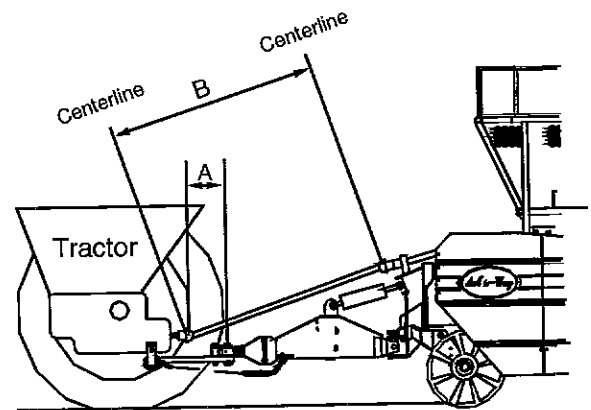

Figure 6. Drawbar Specification.
Drawbar - Set the tractor drawbar at 16 inches from the end of the PTO to the center of the drawbar attaching hole for 1 3/8" PTO's, and at 20 inches for 1 3/4" PTO's. When connected to the tractor, the driveline should measure between 58 and 68 inches between centers of the universal crosses. Refer to Figure 6 and to Table 2, below.
7. Adjust the tractor drawbar. Refer to Figure 6 and Table 2 on the previous page.